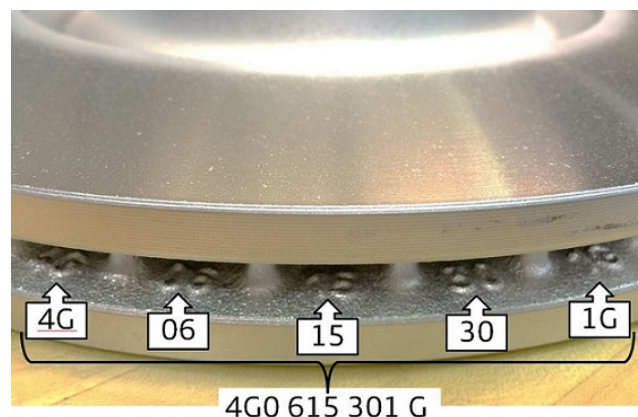

Figure 3. Front brake disc part number location.
3. Check the part number on the front discs. If the part number is not 4G0615301G, then install 4G0615301G front discs (Figure 3).